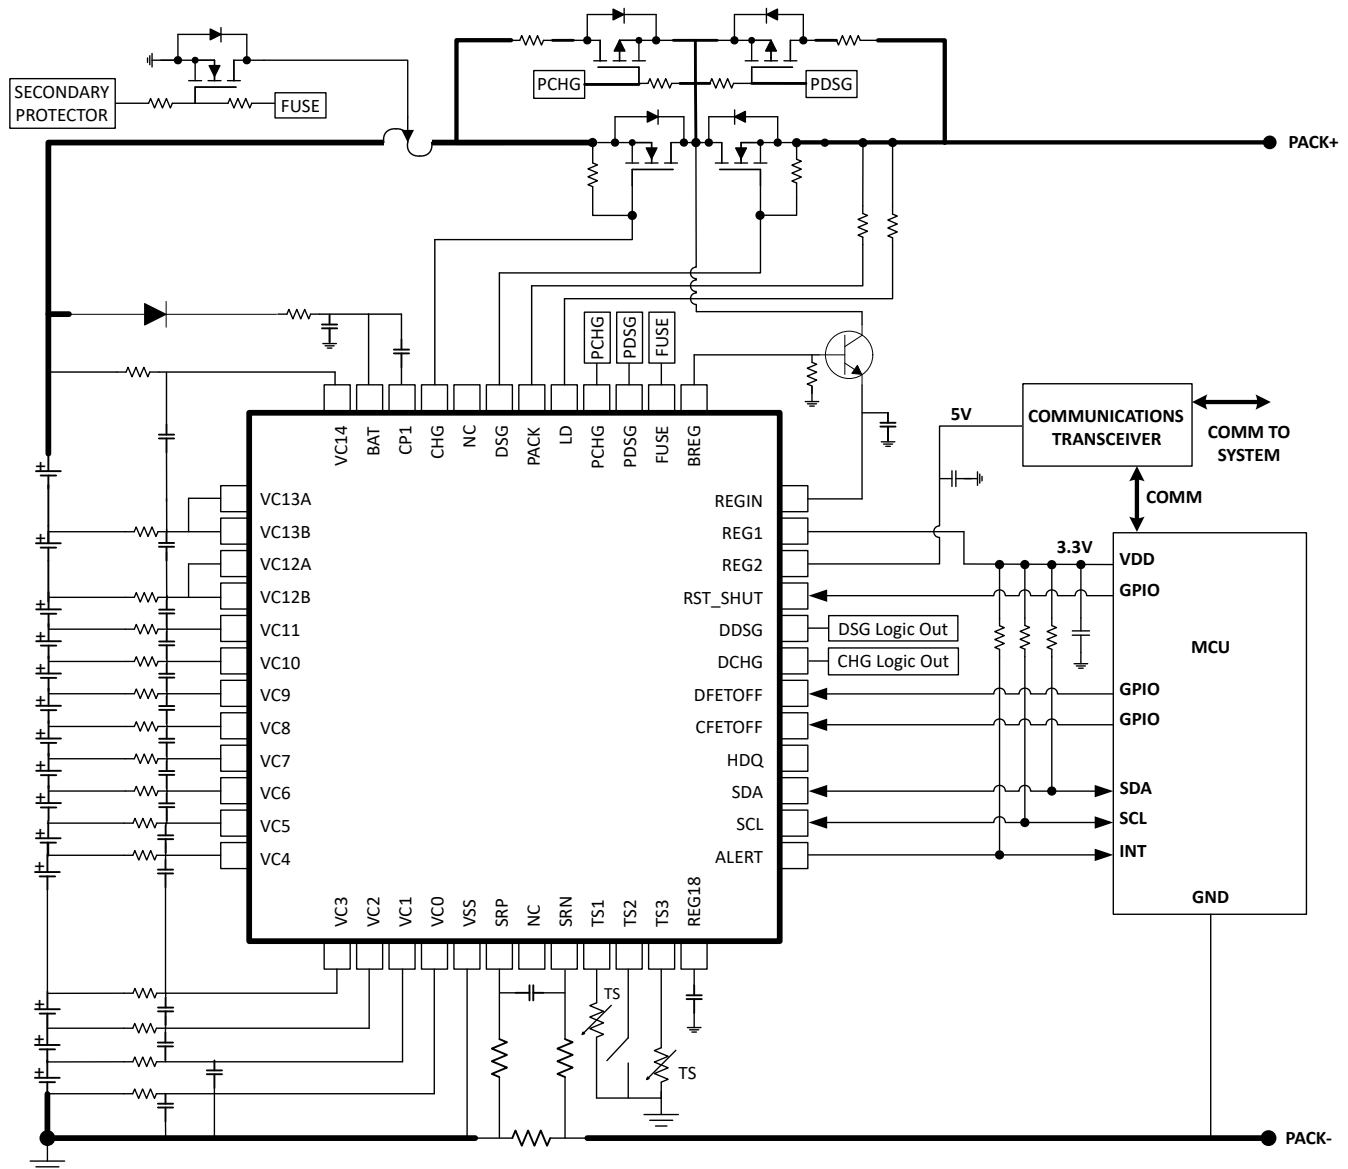
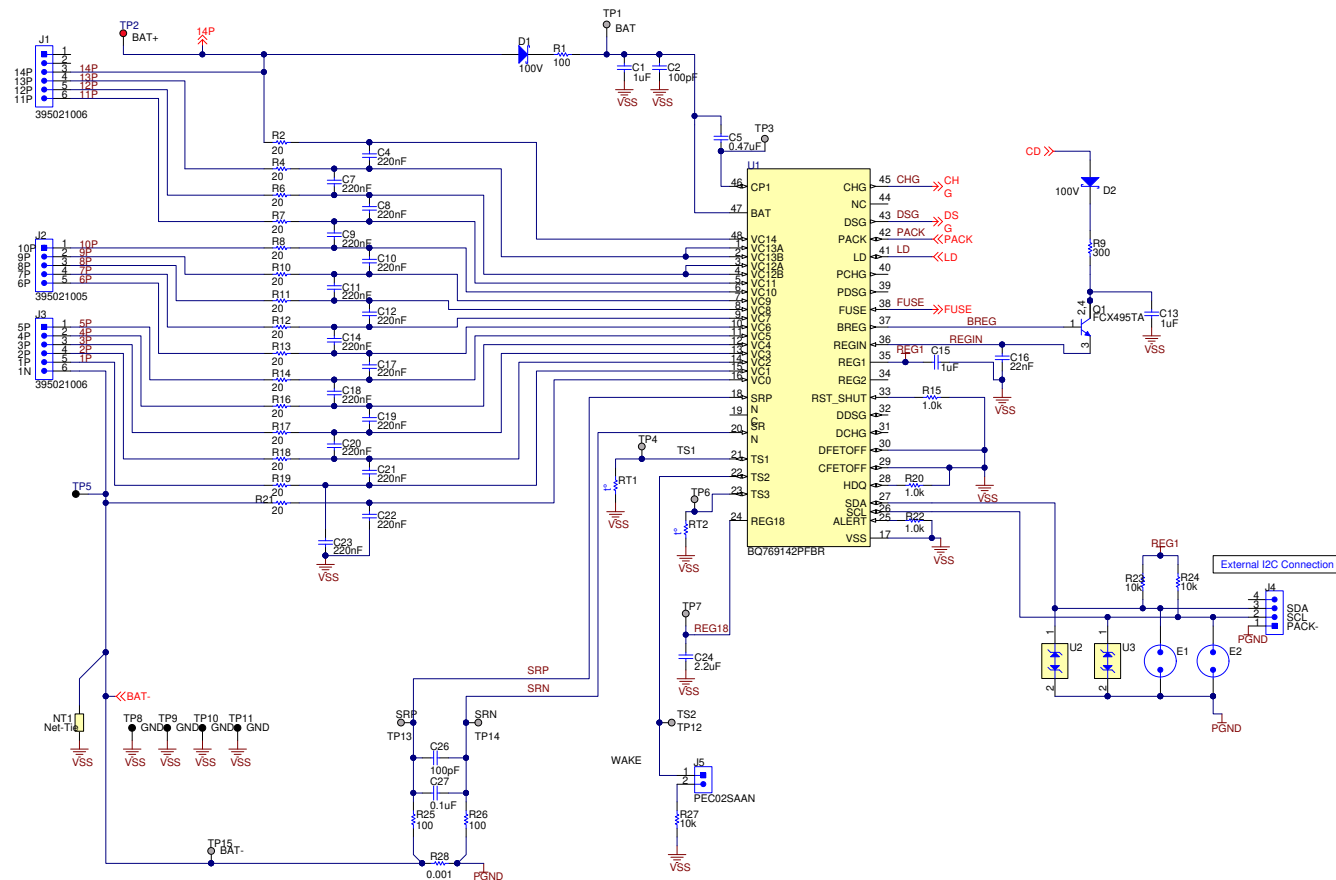
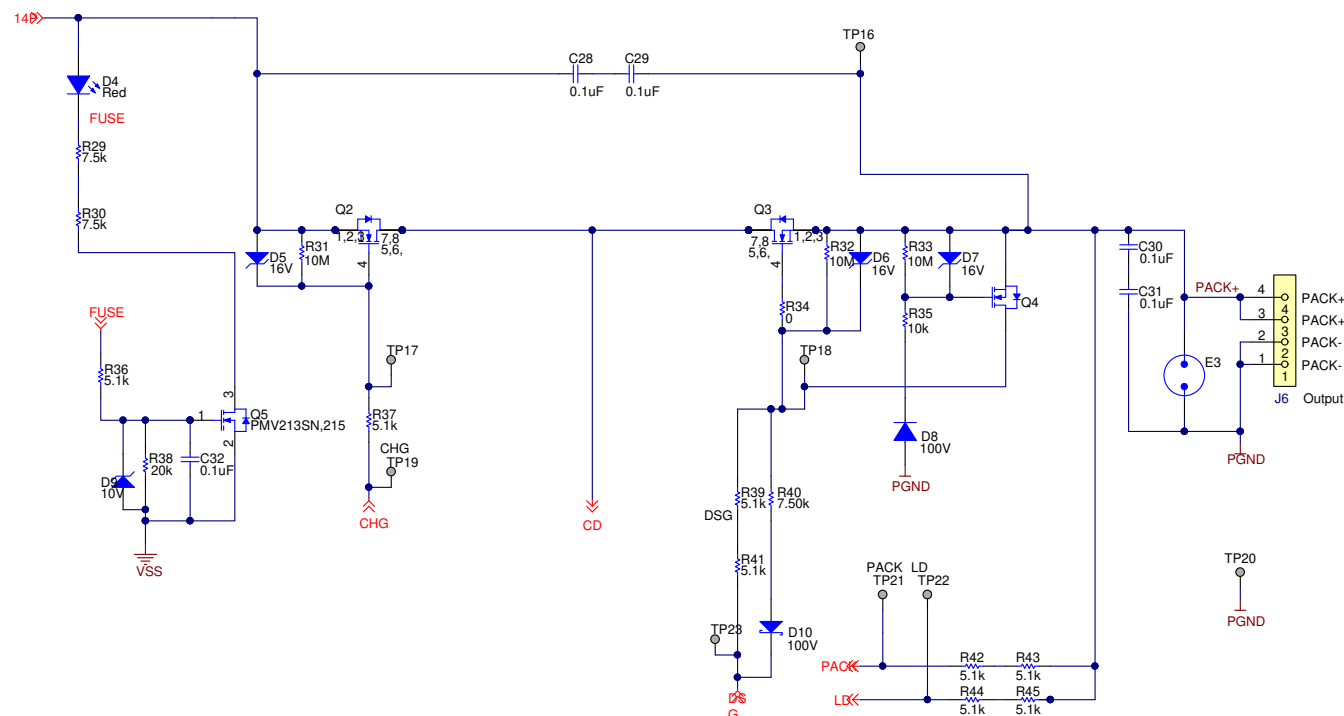

图 16-1. BQ769142 14-Series Cell Typical Implementation (Simplified Schematic)
图 16-2. BQ769142 14-Series Cell Schematic Diagram—Monitor
图 16-3. BQ769142 14-Series Cell Schematic Diagram—Additional Circuitry
**图 16-1** shows a simplified application schematic for a 14-series battery pack, using the BQ769142 together with an external secondary protector, a host microcontroller, and a communications transceiver. This configuration uses CHG and DSG FETs in series, together with high-side PFET devices used to implement precharge and predischARGE functionality. See the following implementation considerations:
图 16-2 和 图 16-3 show a full schematic of a basic monitor circuit based on the BQ769142 for a 14-series battery pack. The BQ76952 EVM also provides a good reference design for BQ769142, noting that the VC12 - VC16 connections in the BQ76952 EVM need to be modified as shown in 图 16-1.
- Power Dissipation, which can be a factor of the RDS(ON) rating of the FET, the FET package, and the PCB design
- The overdrive level of the BQ769142 device charge pump should be selected based on RDS(ON) requirements for the protection FETs and their voltage handling requirements. If the FETs are selected with a maximum gate-to-source voltage of 15 V, then the 11-V overdrive mode within the BQ769142 device can be used. If the FETs are not specified to withstand this level or there is a concern over gate leakage current on the FETs, the lower overdrive level of 5.5 V can be selected.
- A diode can be optionally included in the collector circuit of the BJT to avoid reverse current flow from BREG through the base-collector junction of the BJT to PACK+ during a pack short circuit event. This diode can be seen in 图 16-2 at D2.